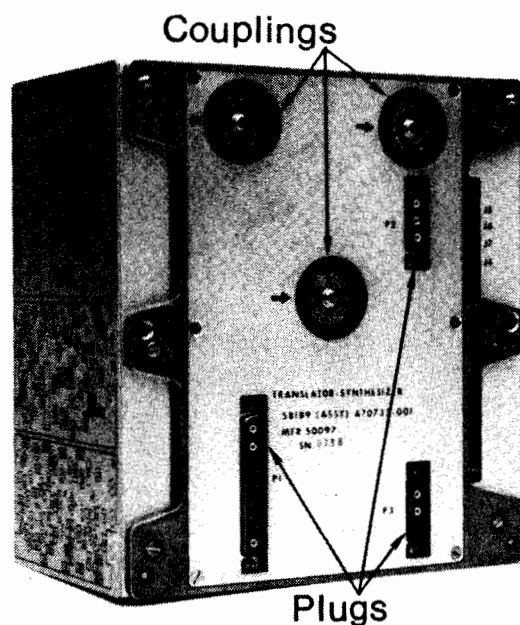

Figure 1
- b. The Receiver Mode Selector 1A2A1 is a main frame plug in subassembly. It may be easily removed by loosening each of the two (2) captive screws which secure it to the main frame. These screws, located on the CORNERS of the module (as they are on the other "plug in" modules) need not be completely removed, but require loosening to the point of "free movement" in the vertical direction. They should slide freely for about one inch and then stop. The module may then be removed by grasping these screws and pulling gently in a vertical direction with a slight rocking motion until the module is free of the main frame.
5. After removing a module, take care to place it on a clean stable surface. Place it in a position which will not damage any connectors, plugs, controls, or projecting mechanical couplings as illustrated by Figure 1.